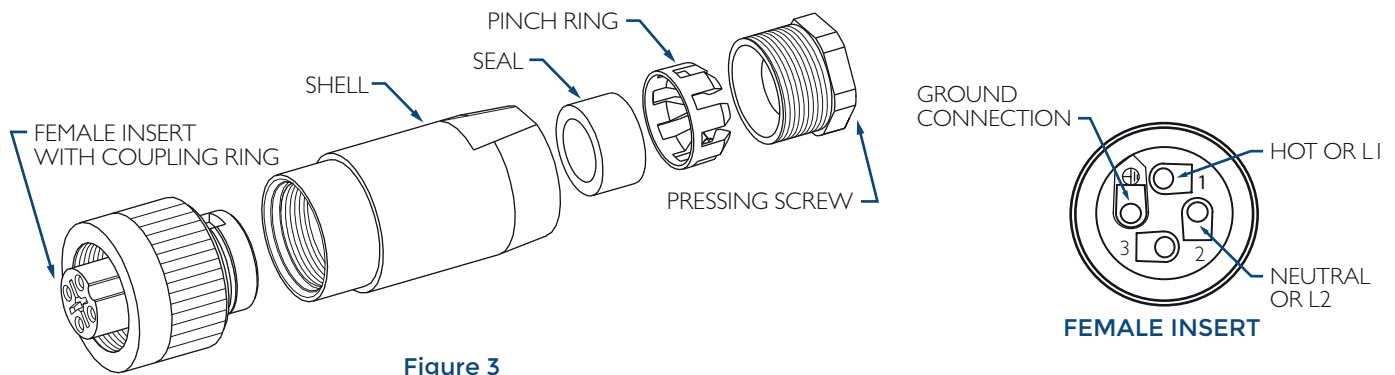

Figure 3
4. A junction box should be installed within 4 feet of the unit. 3/8 inch flexible metal conduit (BX) or SO cord can be used to wire the ionizer (check with the local Authority Having Jurisdiction (AHJ)). Figure 3 shows the power inlet fitting detail.